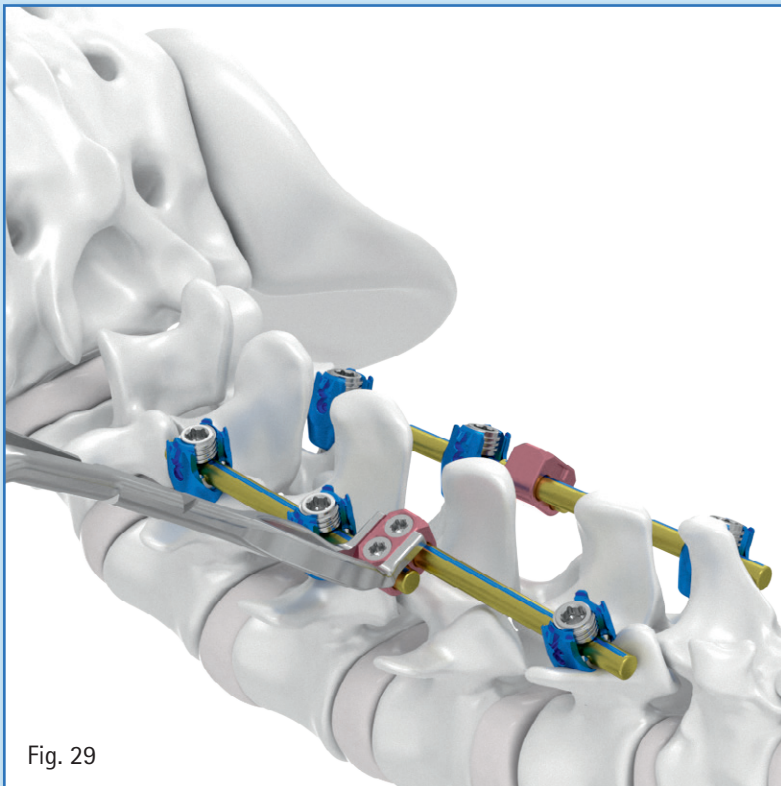

Fig. 29
- b. For Closed Connectors: Slide both rods into the closed holes prior to placing the rods into the pedicle screw bodies. (Fig. 29)